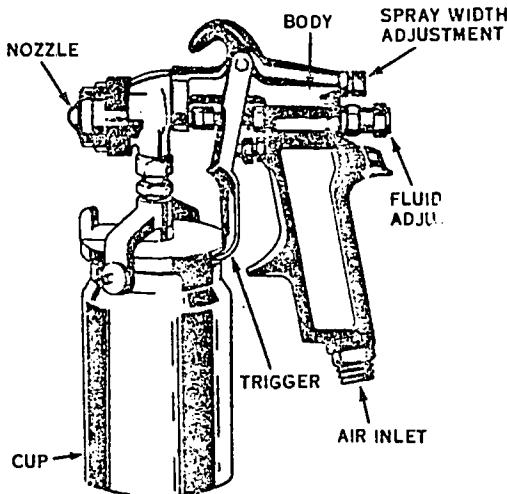

Figure 76. Attached container type spray gun.
39. *Attached container type.* An attached container type spray gun is usually referred to as "cup type," since the paint is held in a cup attached to the bottom of the gun. Cup type guns, which require only an air hose, are used extensively in military painting. The gun is illustrated in figure 76.